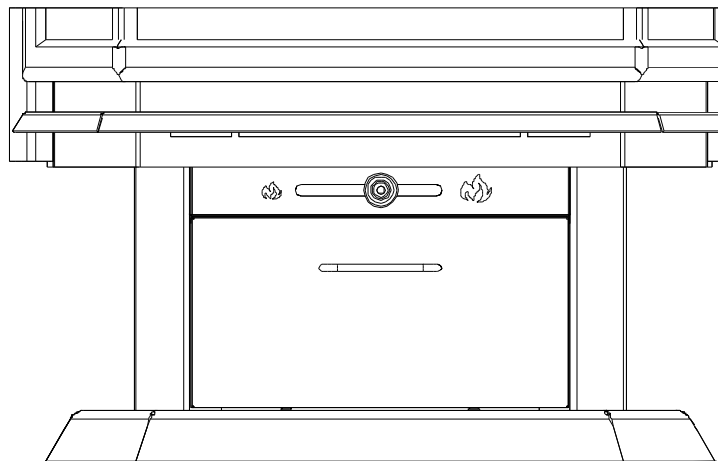

FIGURE 6 Draft control
4. Open the draft control fully to the right (located on the front of the stove, Figure 6)